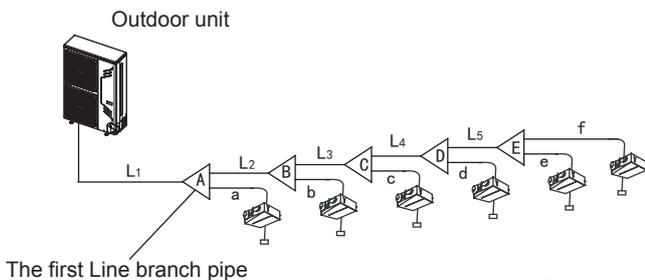
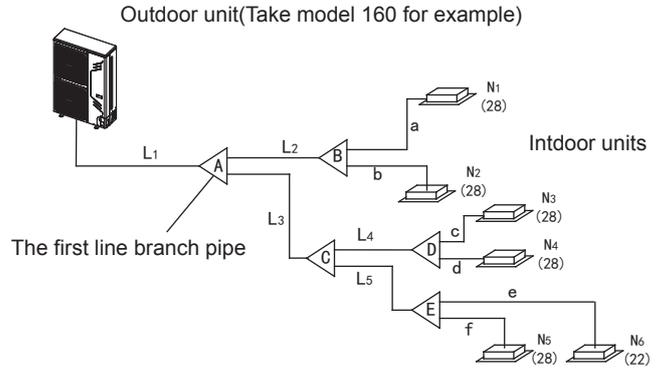
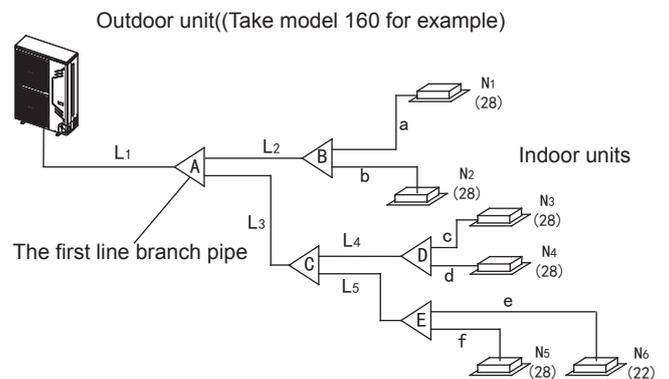
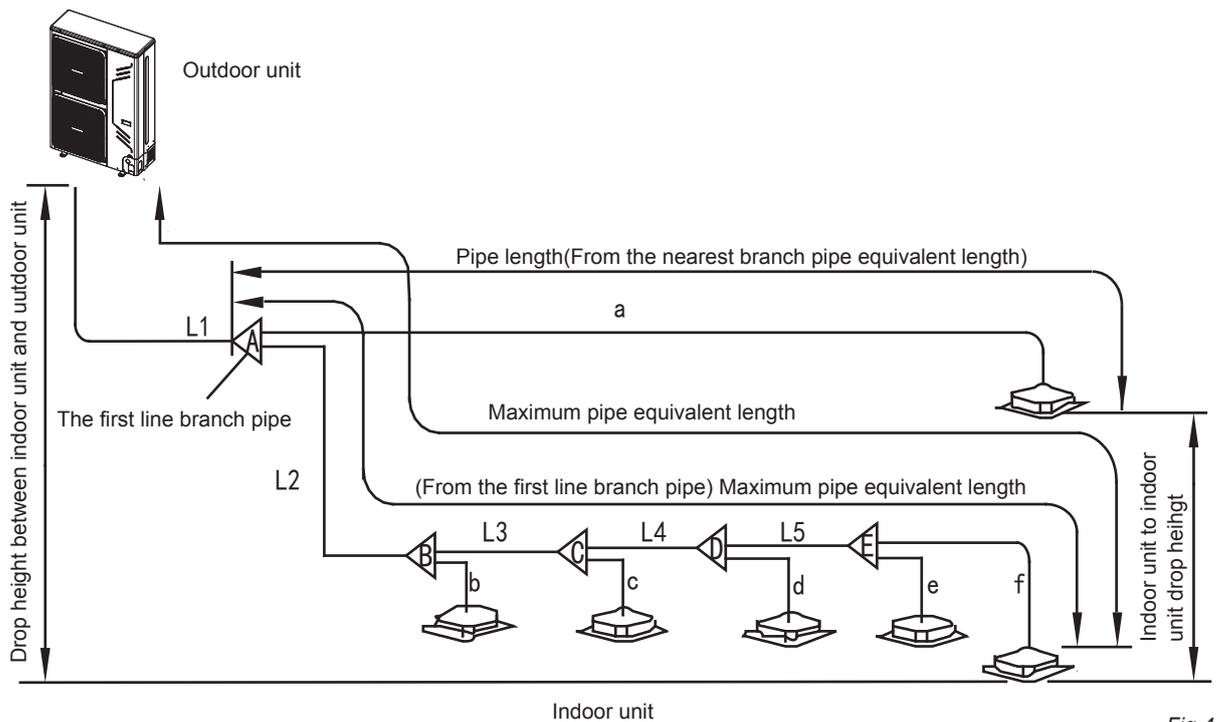

Fig. 4-4
Fig. 4-5
Fig. 4-6
Fig.4-7
- 2) Example 1: In the Fig.4-5, The downstream inner units of the L2, and its total capacity is $28 \times 2 = 56$, refers to the Table 4-4, the air/liquid side of L2 is: $\Phi 15.9/\Phi 9.5$.
- Main pipe (Please refer to Fig.4-5 and Fig.4-7)
In Fig.4-6, the main pipe L1, the outdoor unit capacity is 16kW, and check the Fig.4-7 to get the size of gas pipe/liquid pipe is $\Phi 19.1 / \Phi 9.5$, and aslo the total equivalent length of liquid side and gas side pipes is $> 90m$, then check the Fig.4-4 to get the size of gas pipe/liquid pipe is $\Phi 22.2 / \Phi 9.5$, and according to the maximum value principle, it should apply the $\Phi 22.2 / \Phi 9.5$.